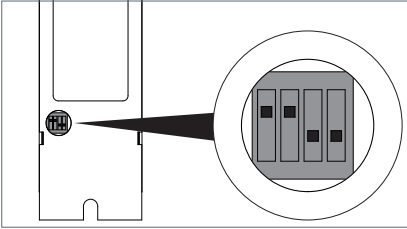

Fig. 31: DIP switch position for the Advanced Group Control function
- ▶ Set the DIP switches no. 1 and no. 2 to the "ON" position, see Fig. 31.